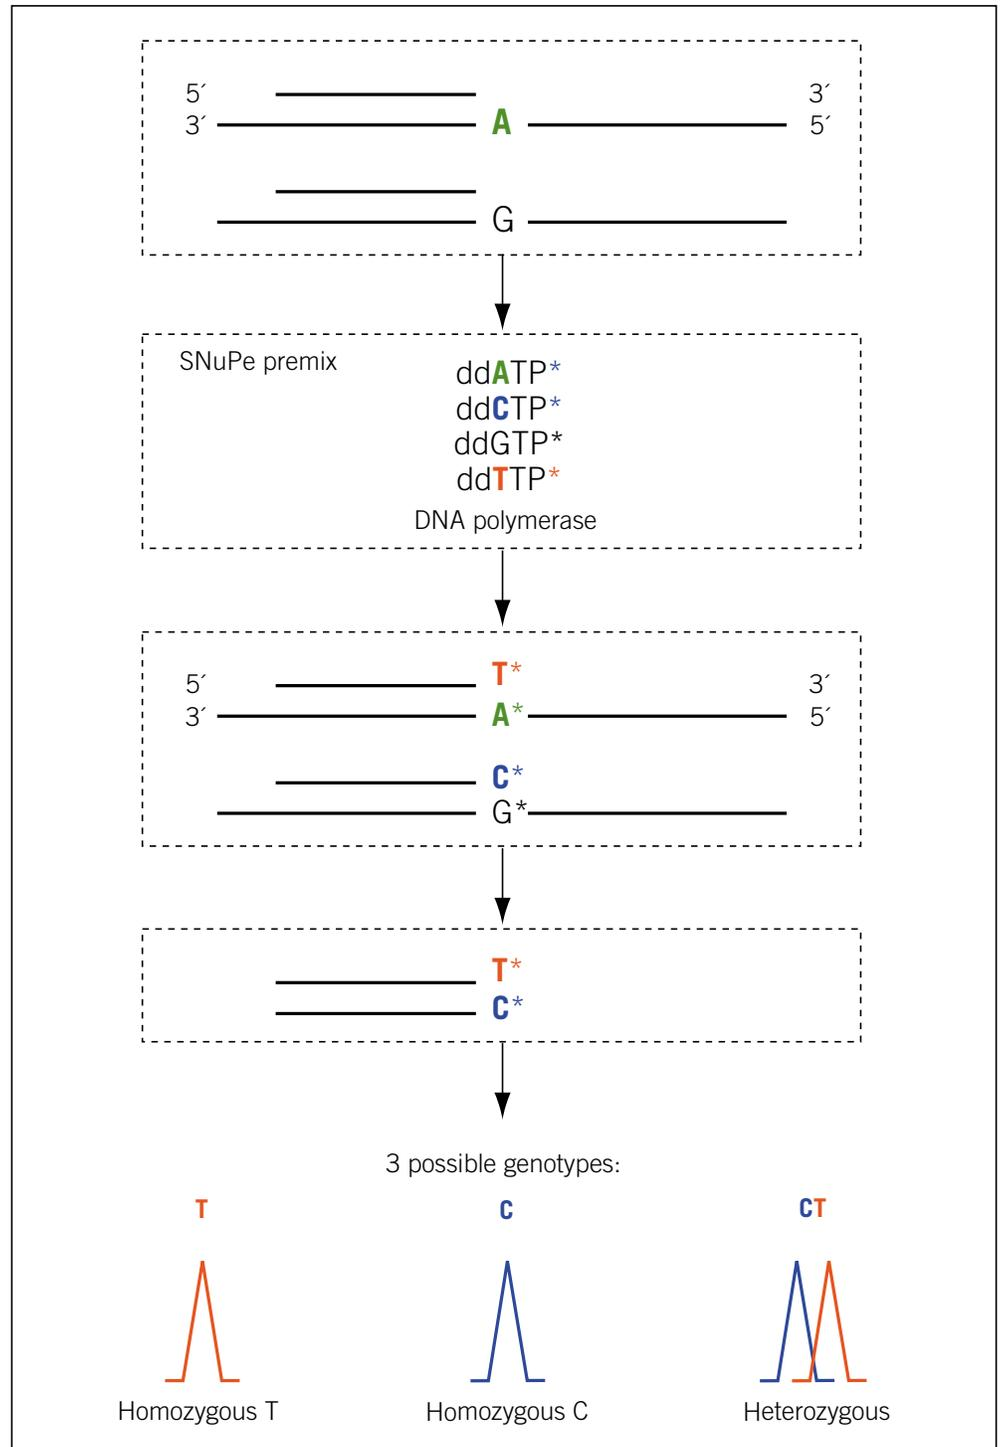

Figure 12-1. The SNuPe (Single Nucleotide Primer Extension) theory.
Table 12-1 provides a workflow overview for testing the SNP markers. Figure 12-1 illustrates the theory of the SNUPe chemistry.
- Using a G-base in the 3′-position of your SNP primer (for example, TCGGATCGTACAACTCTCG) might cause uneven incorporation of the SNP bases being assayed (figure 12-1). You can choose a primer without a G-base in that position by selecting the primer on the opposite strand.